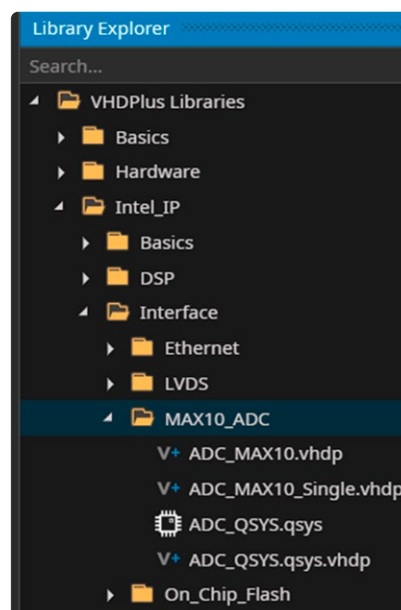

Figure 7: Add the ADC library to your project.
- Select the following (**Figure 7**):